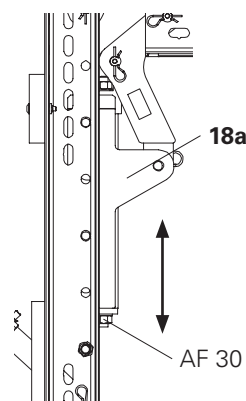

Fig. C2.01a
1. Carry out vertical fine adjustment with the Adjusting Unit VARIOKIT (18a) and Heavy-Duty Spindle SLS (2b) or (2c). (Fig. C2.01a + C2.01b)
2. Slightly loosen the Swivel Coupling AF 48/48 (36) on the diagonal steel scaffolding tube (34b).
3. Height adjustment is carried out by turning the Adjusting Unit VARIOKIT (18a) using a ratchet wrench and socket AF 30. (Fig. C2.01a)
5. Tighten the Swivel Coupling AF 48/48 (36) on the diagonal steel scaffolding tube (34b).